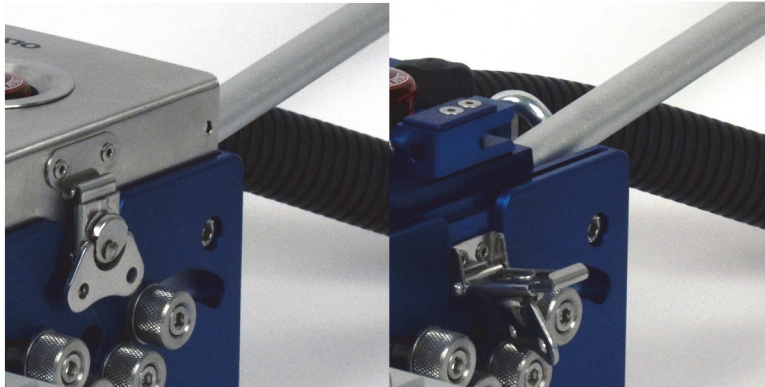

Figure 2-2 WeldROVER— butterfly latches
1. On each side of the scanner, lift the butterfly latch (see Figure 2-2 on page 25).